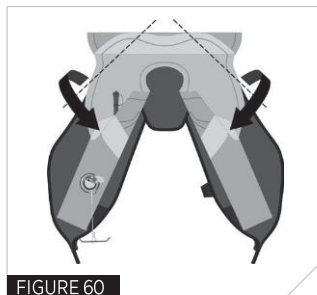

FIGURE 60
11. Fold corners of the bladder to the inside, along fold lines 11 and 12 (Fig 60).